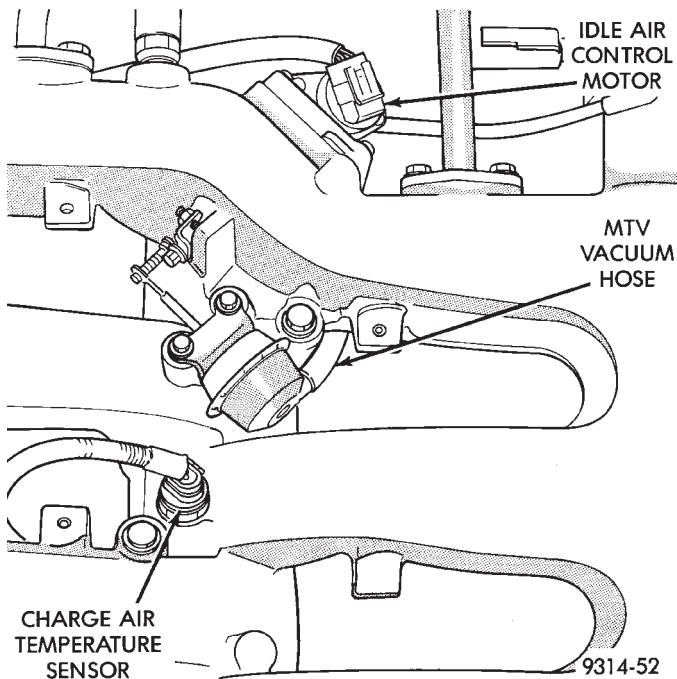

Fig. 20 Idle Air Control Motor—3.5L Engine
(4) Disconnect electrical connector from idle air control motor (Fig. 20).
(5) Disconnect electrical connector from charge air temperature sensor (Fig. 20).
(6) Disconnect vacuum hose from manifold tuning valve (Fig. 20).